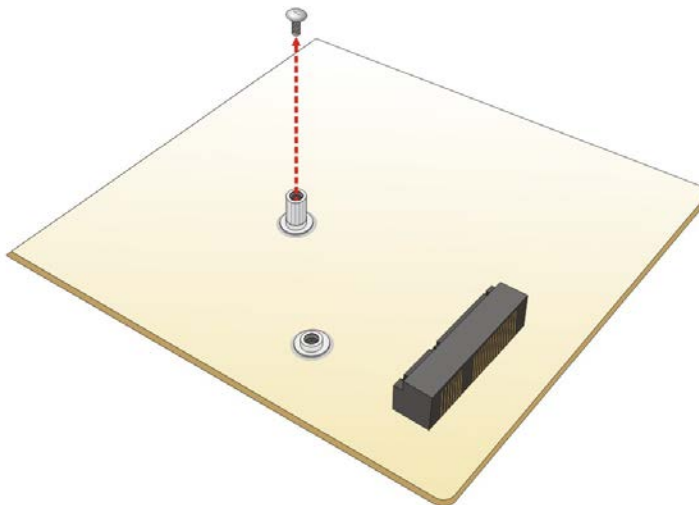

Figure 3-10: Removing the Retention Screw
Step 4: Remove the retention screw as shown in **Figure 3-10**.